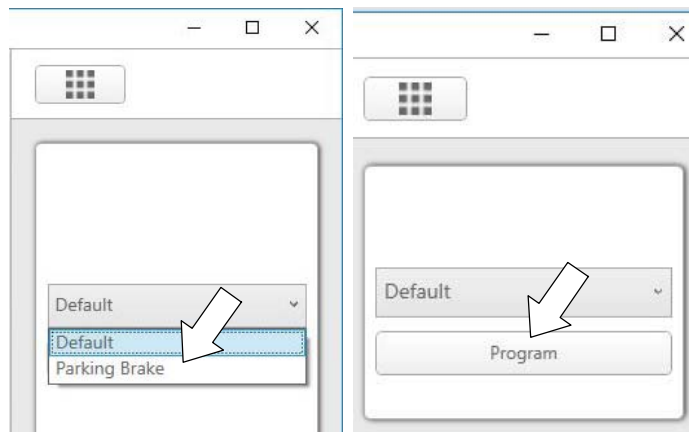

Fig. 7
8. T600/e models: If transaxle is equipped with the electronic park lock option, select "Parking Brake". If not equipped, select "Default" (Figure 7). For all other models: Select "Default". Then press "Program" button to program iDrive (Figure 7).